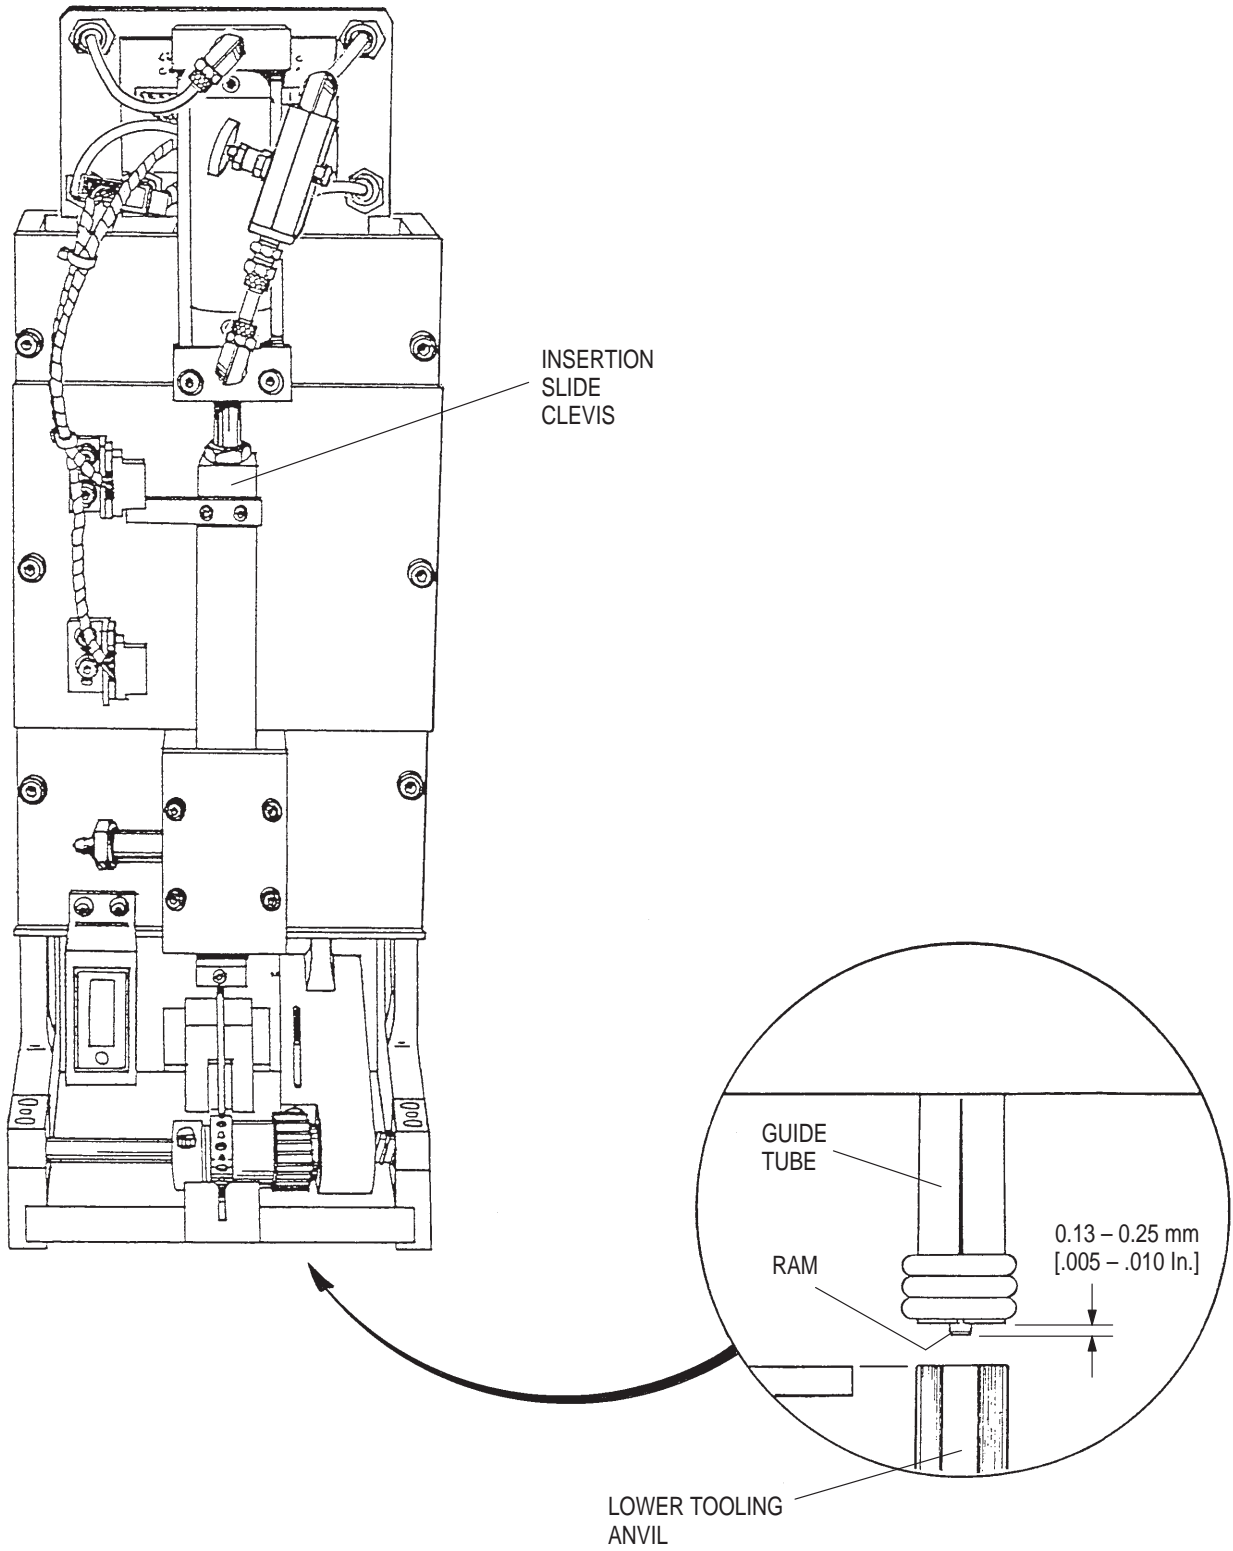

Figure 6-1. Ram Adjustment
6.4. Ram Adjustment (See Figure 6-1)